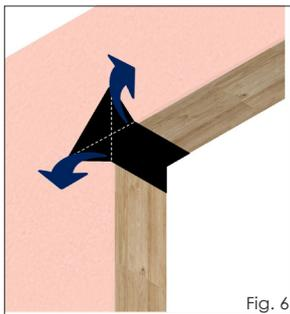

Fig. 6
3. Finish door and window detailing as per the Wraptite Window Installation Guide using YouByute Flexi Tape and ProctorPassive DriFlash Tape (summarised in Fig. 6 -13).
**Fig. 6:** Install and prepare the substrate. Cut a 150mm length of the Youbyute Flexi Tape (200mm for 140mm framing) to form a corner piece. Partly peel back the release liner, one-side at a time and adhere within the frame, ensuring it is flush with the interior edge of the stud-work. Apply the remaining YouByute Flexi Tape over the substrate, stretching just enough to cover the substrate in line with the corner and seal completely by applying the squeegee. Repeat for all the corners.